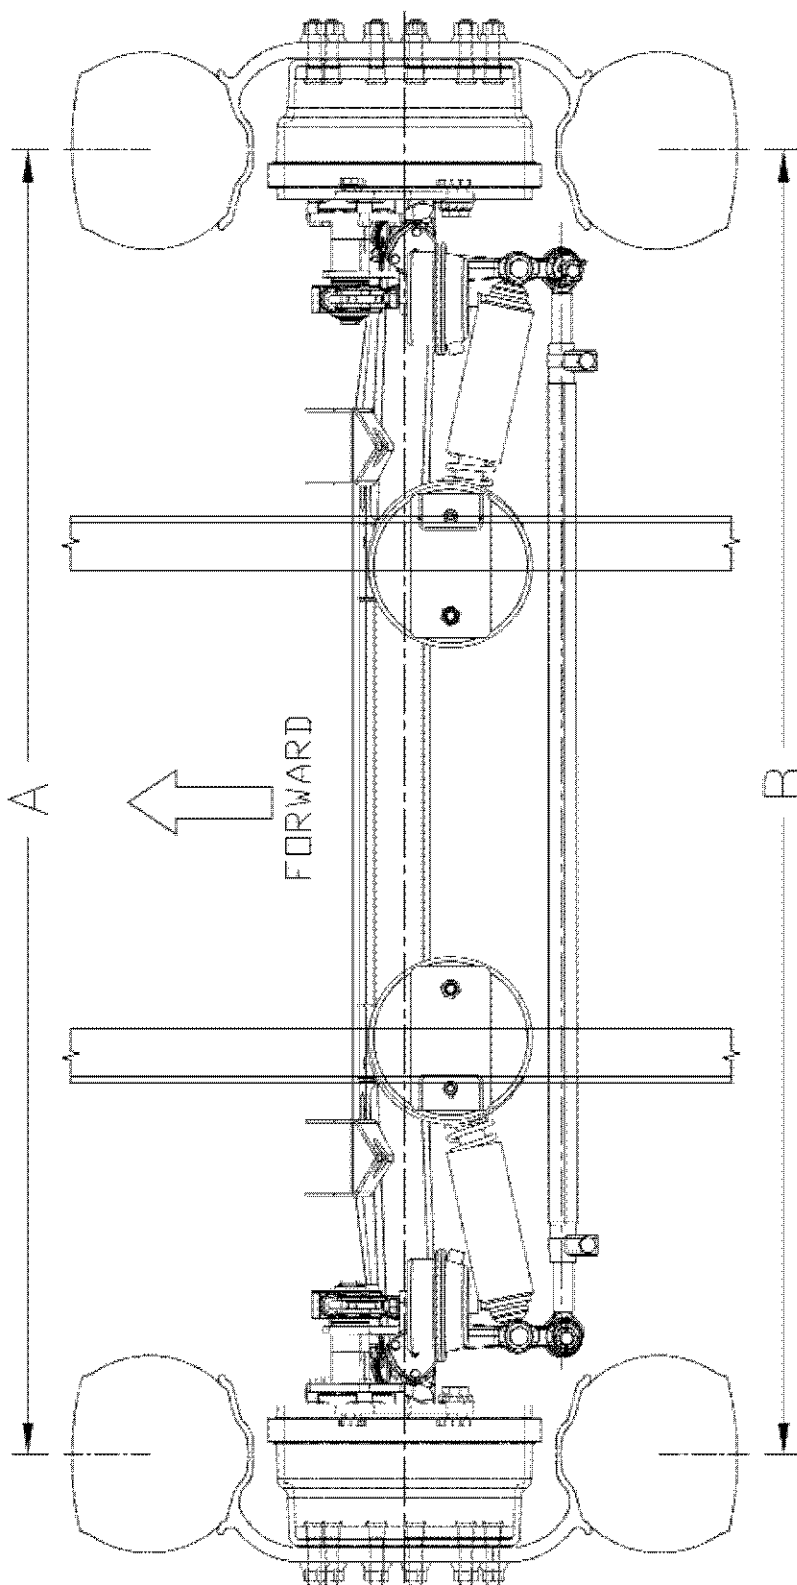

FIGURE 5
Toe is the difference between the dimensions, measured at spindle height, across the front of the tires versus the rear as shown in **Figure 5**. Therefore, $TOE = REAR - FRONT$. If FRONT is less than REAR, the suspension has “toe-in”. The toe of the suspension is critical to ensure proper tracking of the wheels, long tread life, stability and smooth operation. If there are problems with any of these items, the first thing to check is the toe. Toe is pre-set at the factory but there may be times that it must be checked in the field.
4. Measure the distances between tires, from the edges of the marked tread and at spindle height, as shown in Figure 5. $TOE = REAR - FRONT$. The toe should be between 1/32” and 3/32”.